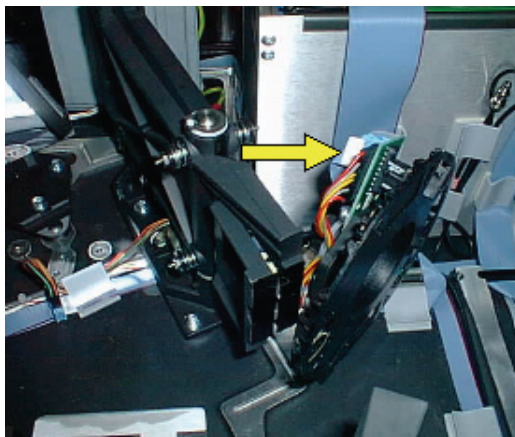

Figure 102 Attaching the excitation control cable
6. Attach the excitation filter wheel control cable, as shown in Figure 102.